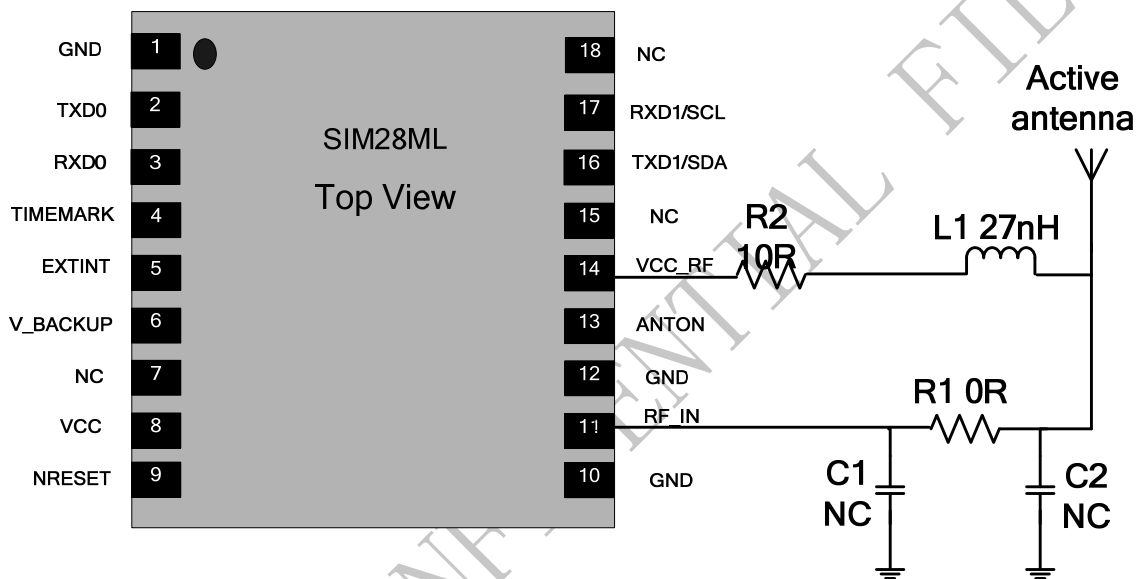

Figure 8: SIM28ML Active antenna simplified design
- Usually Pin 14 VCC_RF is directly used for the active antenna power input, as shown in Figure 8. The voltage range is from 2.8V to 4.3V, typical value is 3.3V, and the max driver current is 50mA. If the VCC_RF voltage does not meet the requirements for powering the active antenna, an external LDO should be used. The inductor L1 is used to prevent the RF signal from leaking into the VCC_RF pin and route the bias supply to the active antenna, the recommended value of L1 is no less than 27nH. R2 can protect the whole circuit in case the active antenna is shorted to ground.